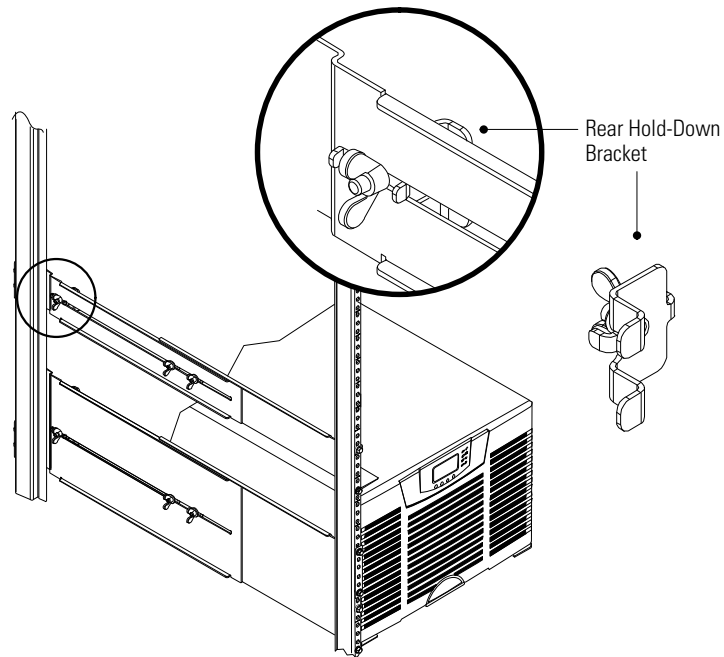

Figure 25. Securing the Back of the EBM
12. Attach the rear hold-down brackets to the rail and slide the brackets into the slots on the EBM rear panel (see Figure 25).